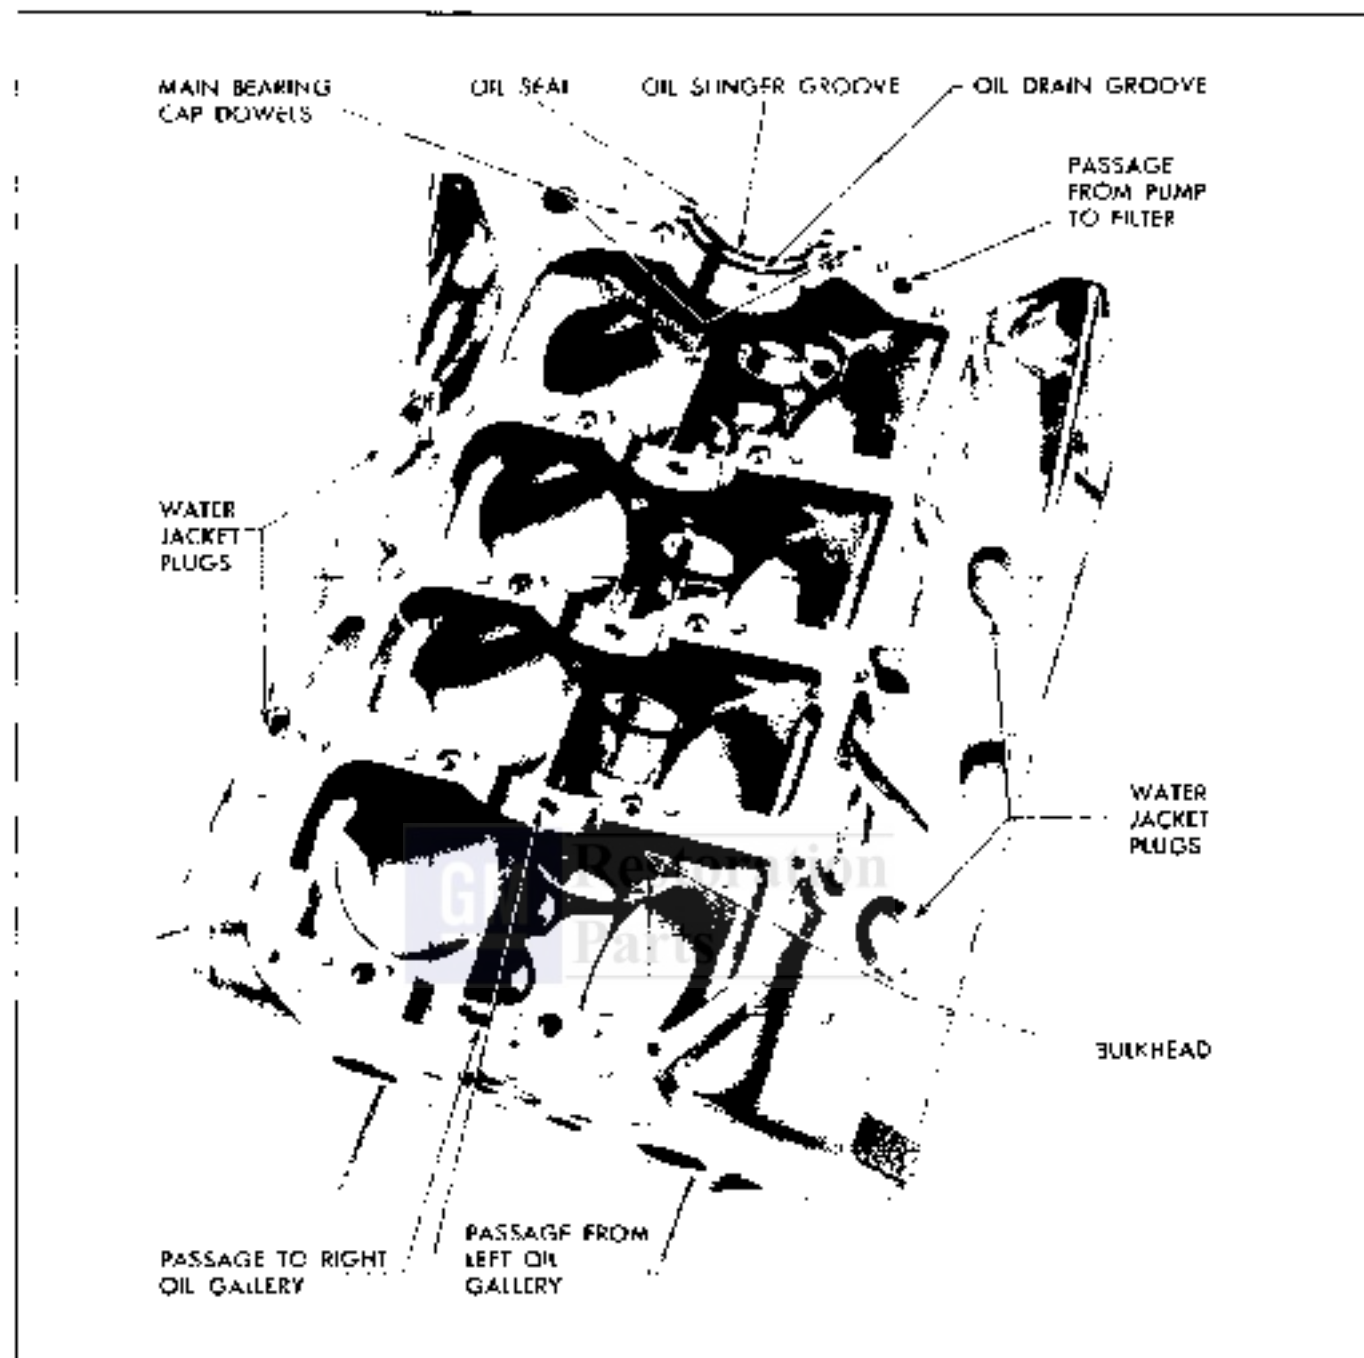

Fig. 6-129 Cylinder Block—View From Bottom
a. With cylinder block inverted, use pen light to see that passage from oil pump to filter is open (Fig. 6-129).
c. Visually check passage from each main bearing to corresponding crankshaft bearing (Fig. 6-129).